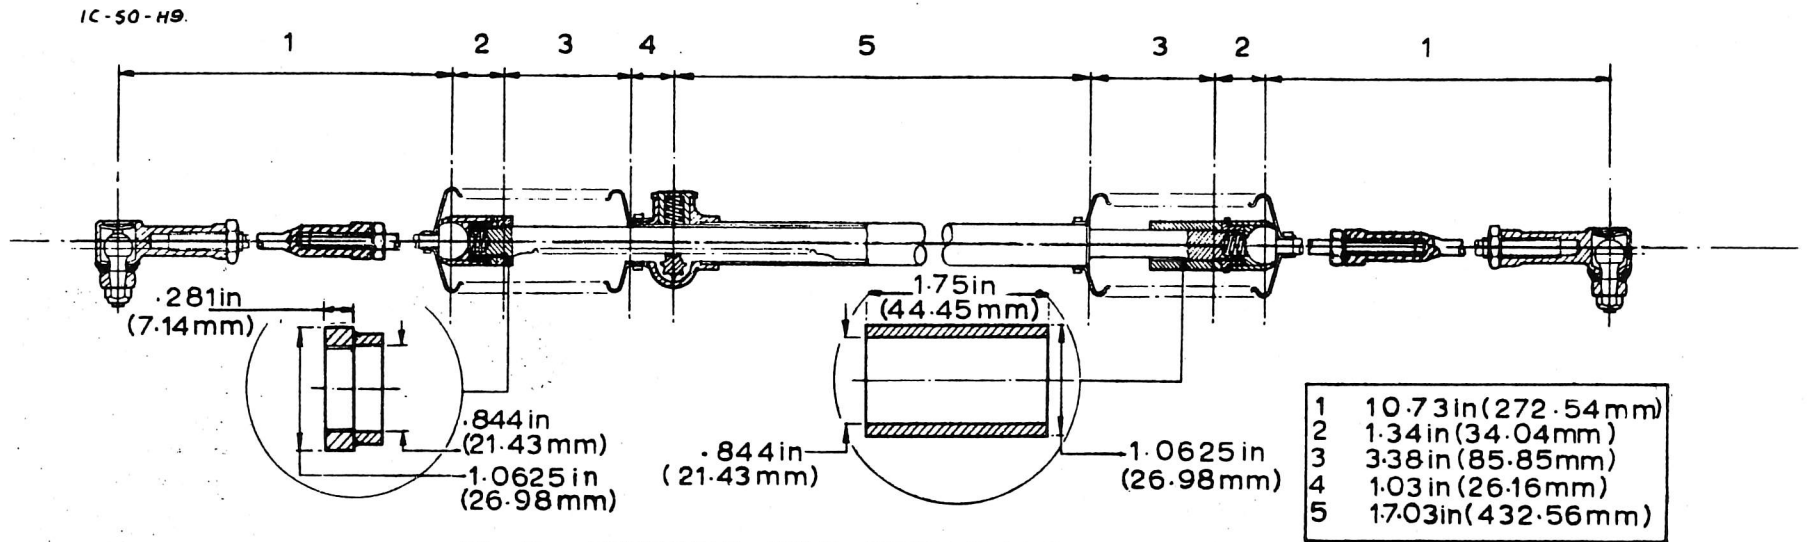

Fig. 8. STEERING UNIT DIMENSIONS
Limitation of the steering lock (Fig. 7) is controlled by the locknut contacting the rack tube. Thus dimension Fig. 8 is particularly important. Providing that this dimension is accurate and the steering unit is centrally mounted on the chassis, correct steering locks should result. See also Section 'C' under Steering Geometry.
7. Screw the locknut on to the end of the rack so that its position corresponds with dimensions $3 + 4 + 5 + 3$ on Fig. 8, i.e. 24.82 in. (62.94 cm.) between inner locknut faces.
In Section 'H.7', the dimension to which reference should be made of Fig.8 is, '3'.